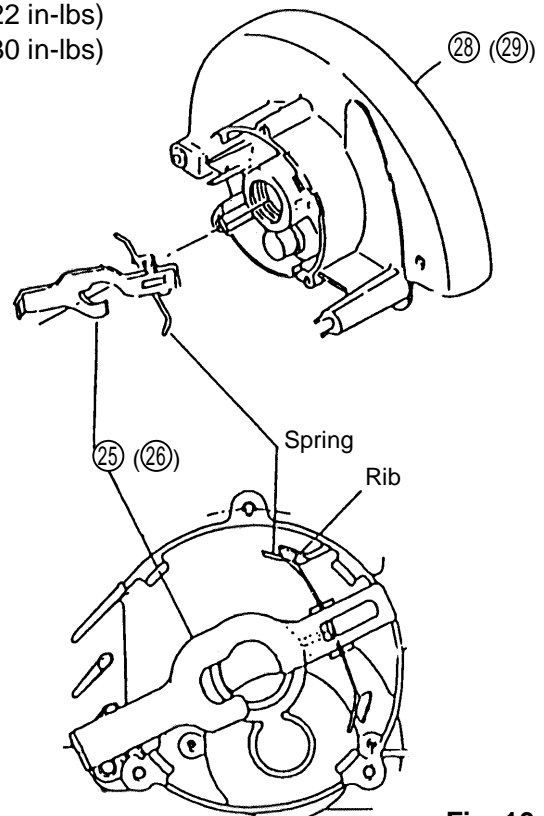

Fig. 10
(3) Reassemble the Lock Lever ②⑤ (②⑥) (See Fig. 10):
- A. Position the Lock Lever ②⑤ (②⑥) between the Fan and the 6001VVCMP52L Ball Bearing ②⑥ (②⑦) of the Armature ②④ (②⑤), and carefully assemble it together with the Armature ②④ (②⑤) into the Gear Cover Ass'y ②⑧ (②⑨).
- B. Ensure that both ends of the Spring on the Lock Lever ②⑤ (②⑥) are properly supported inside the ribs of the Gear Cover Ass'y ②⑧ (②⑨).
- C. When assembly of the Lock Lever ②⑤ (②⑥) is completed (when the Gear Cover Ass'y ②⑧ (②⑨) has been assembled to the Housing Ass'y ①⑨ (②⑩) and fastening with the M5 x 45 Machine